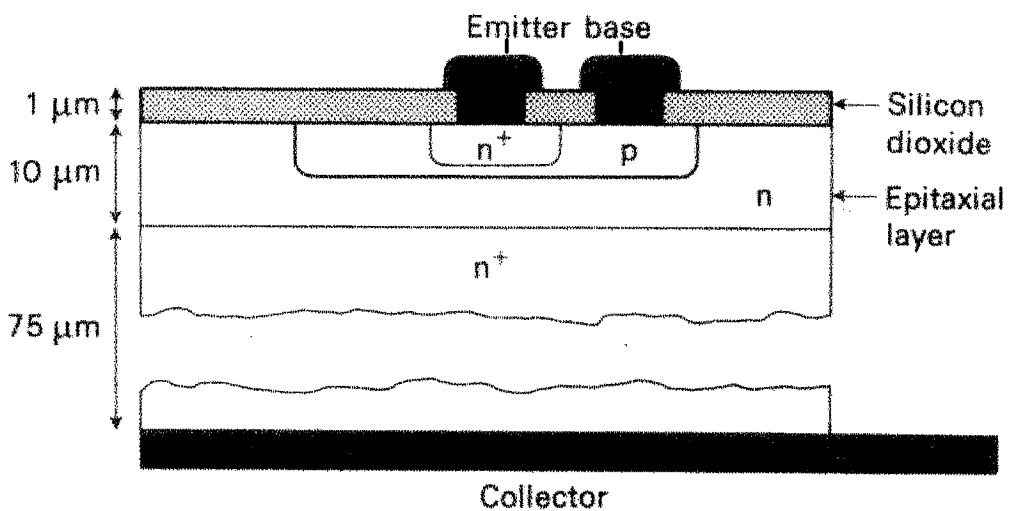

Figure 01. Sectional view of a planar process $n^+ - p - n$ silicon bipolar junction transistor
- A. Fabrication of modern silicon bipolar junction transistors (BJT's) employs the planar process in which the device is formed only on one side of the silicon wafer as shown in figure 01 below.